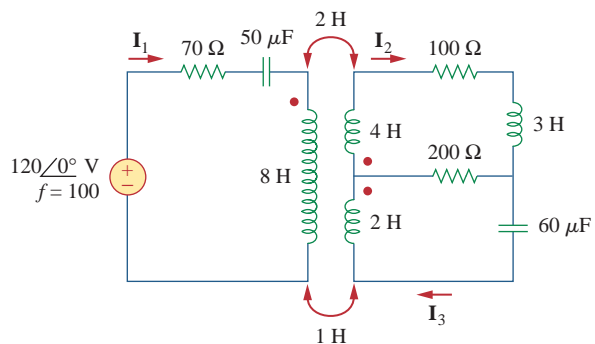

Figure 13.142
13.81 Use PSpice to find I_1 , I_2 , and I_3 in the circuit of Fig. 13.142.